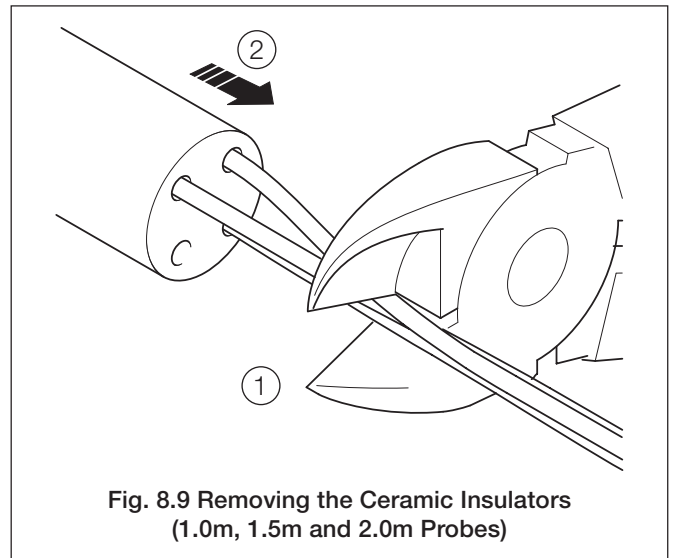

Fig. 8.9 Removing the Ceramic Insulators (1.0m, 1.5m and 2.0m Probes)
### 8.11 Re-assembling the Thermocouple/Electrode Lead Components (1.0m, 1.5m and 2.0m Probes) – Figs. 8.9 to 8.11
Referring to Fig. 8.9:
**...8.11 Re-assembling the Thermocouple/Electrode Lead Components (1.0m, 1.5m and 2.0m Probes) – Figs. 8.9 to 8.11**